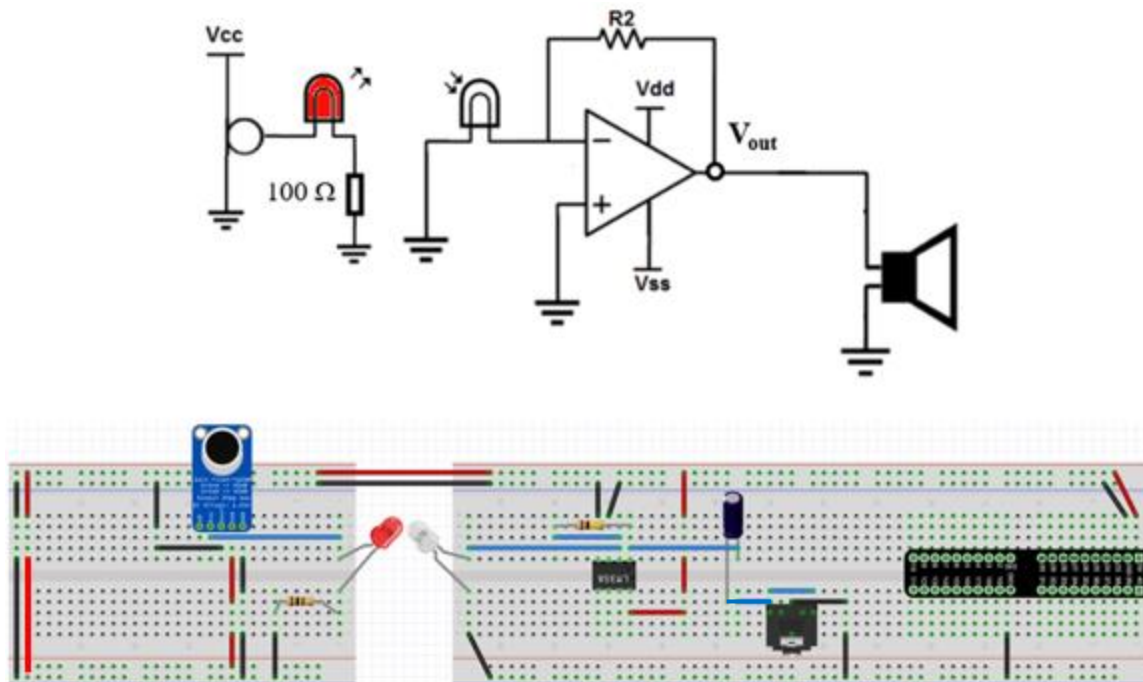

Fig. 6. IR transmitter with microphone and speaker schematic (top) and breadboard implementation (bottom)
1. Construct the circuit shown in Figure 6 below as shown.